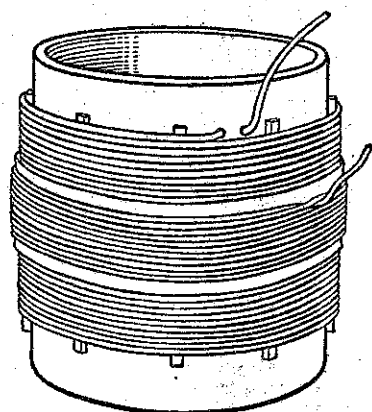

FIG.2.
On a good cardboard former, which may be from 2½ to 2¾ inches in diameter, and about 3 inches long, fix with glue match sticks minus their heads from ¼ to 7-8 inches apart and wind on closely and tightly about 40 feet of No. 22 D.C.C. copper wire, leaving some six inches slack at each end, after anchoring, for connections to aerial and receiver respectively (see Figure 2). This is the primary (P) coil.